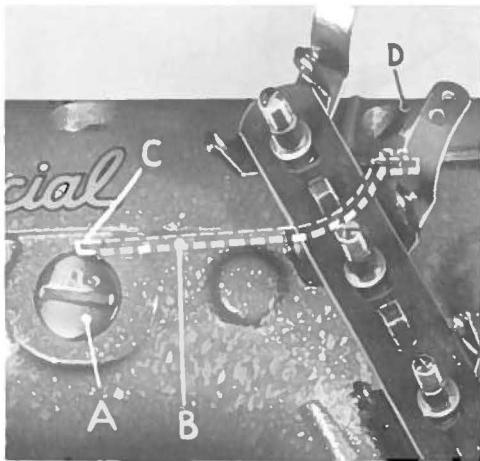
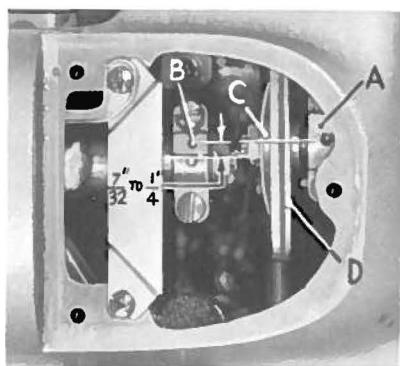

Fig. 1
Fig. 2
Before making any adjustment, remove top crank chamber cover (D, Fig. 1) and check to see that both ends of spacing washer (C, Fig. 2) are seated in the slot of rocker shaft lever (D). If the spacing washer is seated properly, this will locate the center line of the upper needle feed connecting rod ball joint (A, Fig. 2) $\frac{7}{32}$ to $\frac{1}{4}$ inch in back of the center line of the needle lever connecting rod assembly (B).
NOTE: When spacing washer (C, Fig. 2) is properly seated, this will prevent the upper needle feed connecting rod ball joint from moving and also set it properly.